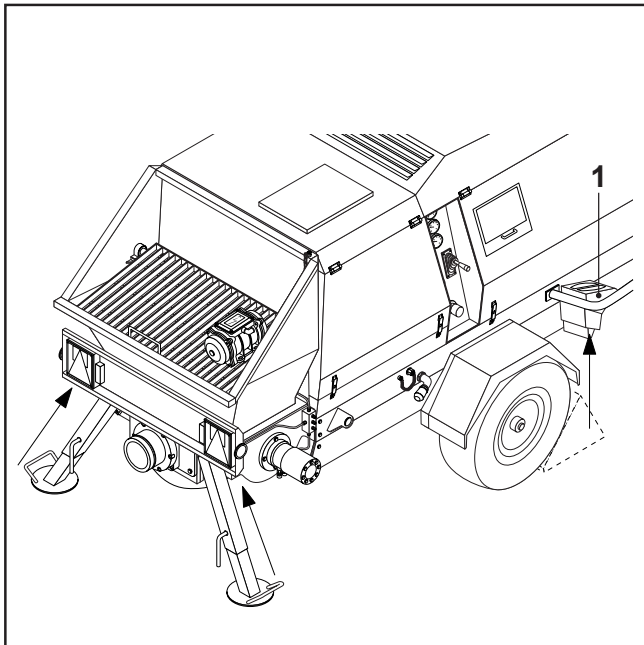

FIG.06
- Lower the towing wheel and raise the support legs (FIG. 06).
- Fasten the light bar in its towing position (FIG. 06).
- Release the parking brake and remove the chocks (FIG. 06-REF. 1).